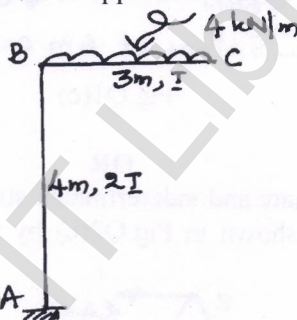

Fig.Q5(b)
b. Find the horizontal and vertical deflection at the free end 'c' of a bent frame loaded as shown in Fig.Q5(b). Using unit load approach. Take  $EI = 15000 \text{ kN-m}^2$ .